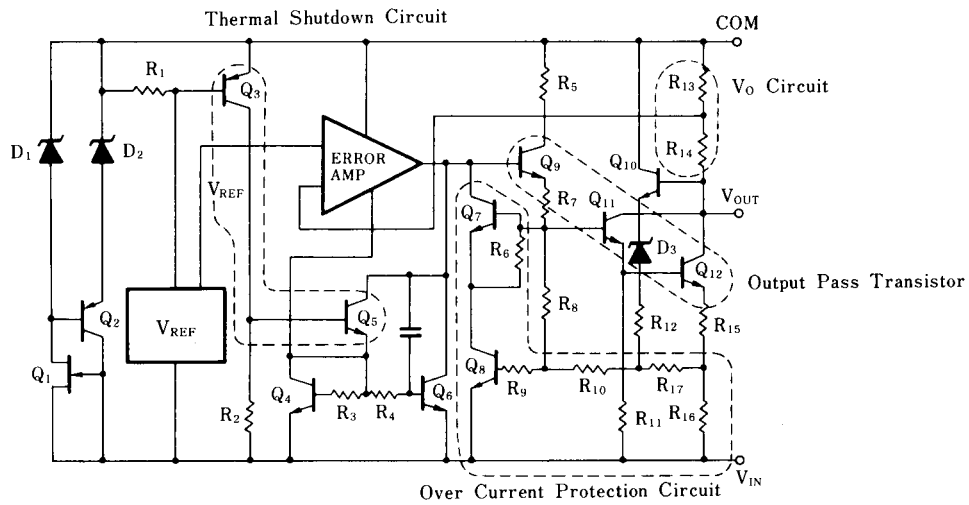

Fig. 2 NJM7900/79M00 Series Circuit Function
(2) Negative Voltage 3-Terminal Regulator (Fig. 2)